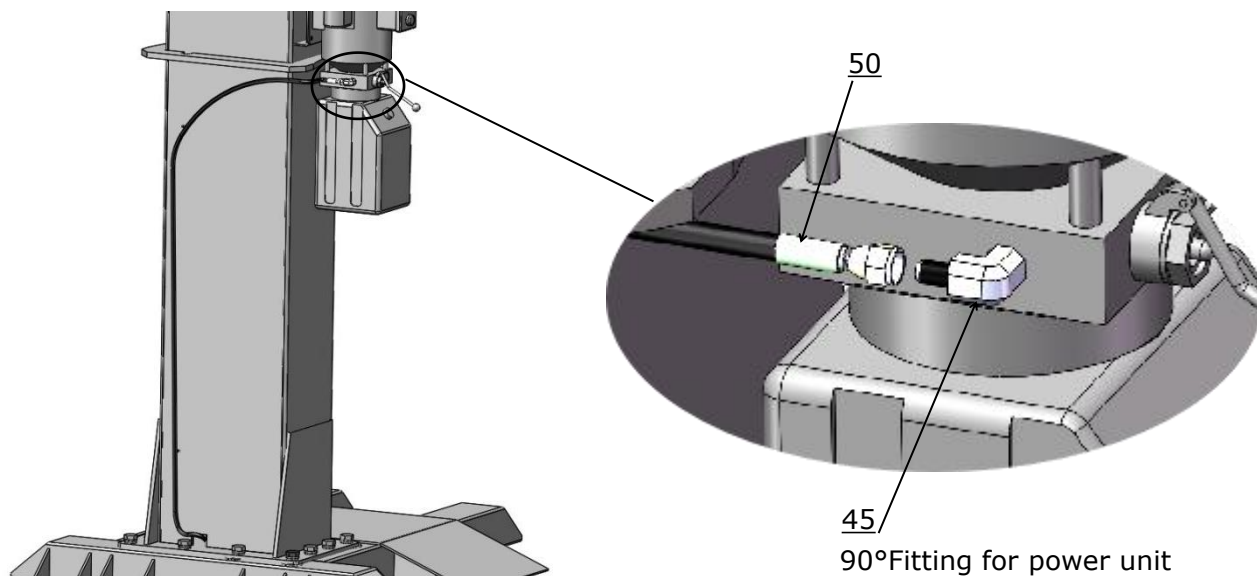

Fig.21
2. Install power unit, see fig 21